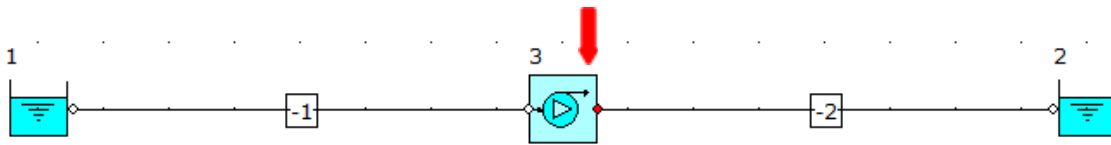

Figure 28: Highlighted Compressor Node.
22. Let us now edit the default compressor data by selecting node 3. You should now see that node 3 is highlighted on the flowsheet (Figure 28).